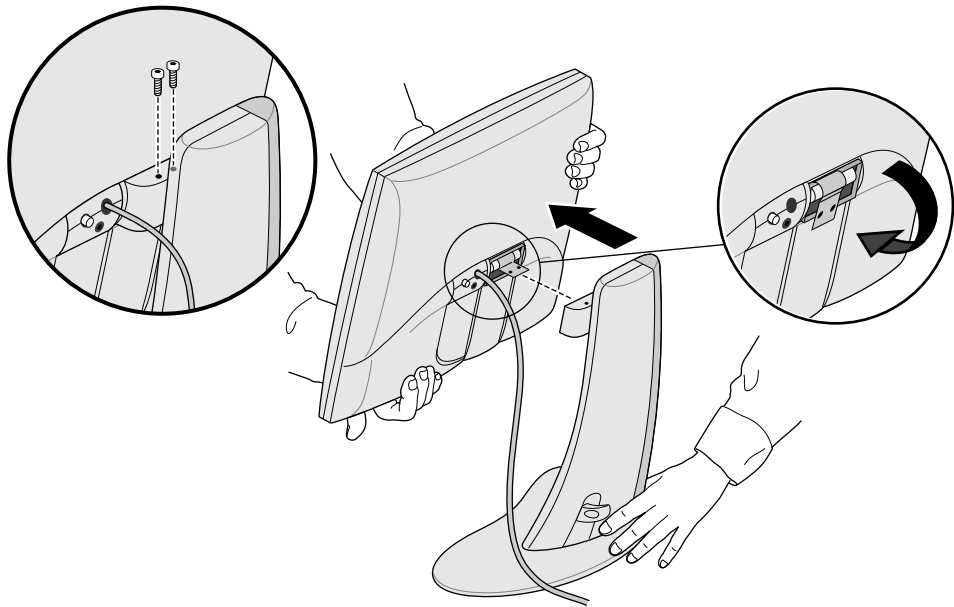

Figure 1-4 Removing the Monitor From Its Base
4. Holding the monitor as pictured in Figure 1-4, use the 3 mm hex wrench to loosen and remove the two hex screws that secure the monitor to its base. Save the screws in case you need to replace the monitor on its base.
6. Optionally, fold down the metal tab at the rear of the flat panel, as shown in Figure 1-4. You may need to use pliers.